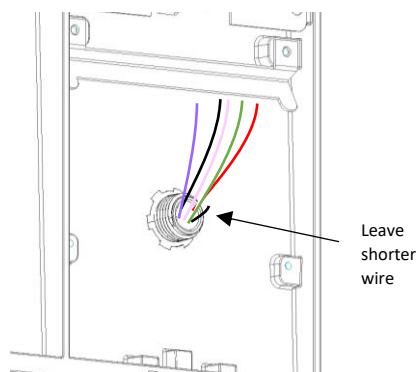

Figure 2
3. Please note that one wire is shorter and not stripped, this will not be used. Please leave this wire inside the strain relief to ensure IP ratings are met. The strain relief on the back of the fixture must have 6 wires sticking out (Figure 2).